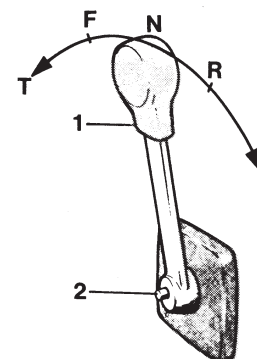

Fig. 4. Combined control
1. Move the control lever to the neutral position so that the shift mechanism disengages. See the directions given in Fig. 4. Push forward the speed control to approx. 1/4 throttle. If the engine is cold, the choke must be completely closed. The choke should not be used when starting a warm engine.
7. Move the control lever to neutral in order to engage the shift mechanism (see Fig. 4). The boat is now ready for operation.